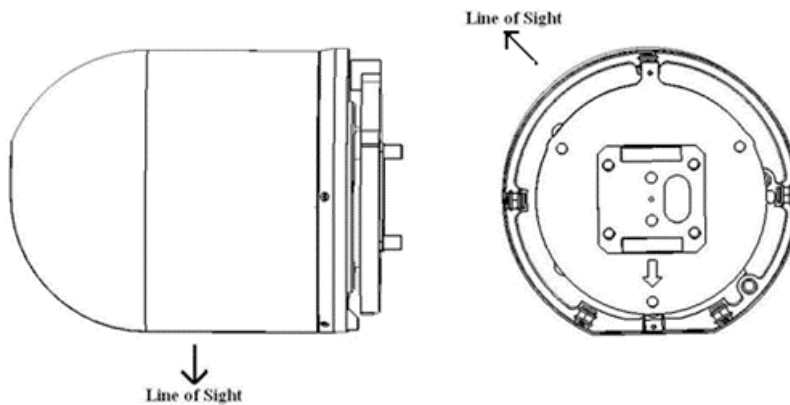

Figure 3: PARK Mode Line of Sight
3. The line of sight in PARK mode is depicted in Figure 3: